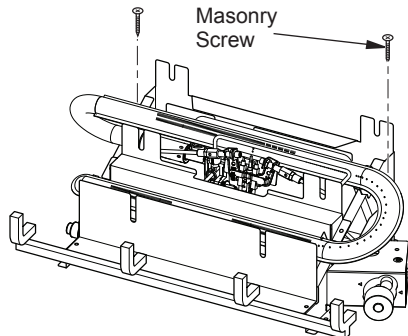

Figure 13 - Attaching Heater Base to Fireplace Floor
2. Mark screw locations through holes in mounting brackets (see Figure 13). If installing in a brick-bottom fireplace, mark screw locations in mortar joint of bricks.
5. Apply pipe joint sealant lightly to fitting threads. Connect approved flexible gas hose to gas regulator of heater (see Figure 13). *Note: Never apply pipe sealant to flare fitting threads. Hold gas regulator with a wrench when connecting flexible gas hose.*
6. Attach base assembly to fireplace floor using two masonry screws provided in hardware package (see Figure 13).